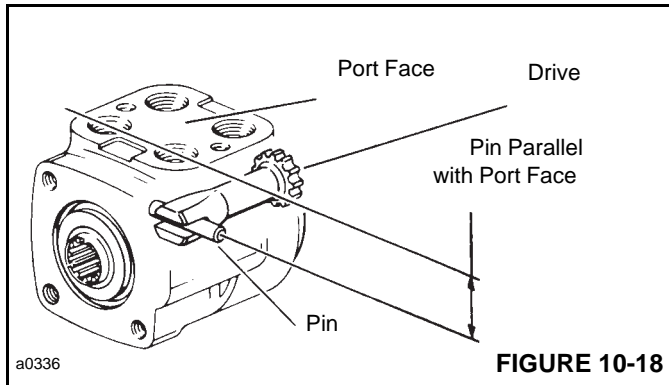
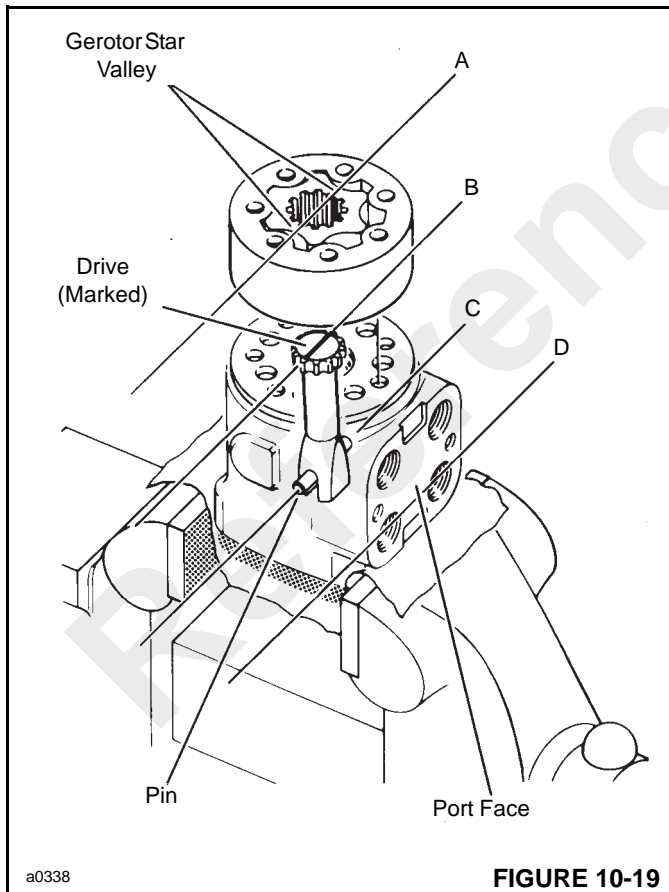

FIGURE 10-18
FIGURE 10-19
19. Install seal (13) into groove in housing (8). Install spacer plate (14). Align bolt holes in spacer plate with tapped holes in the housing.
20. Rotate the spool and sleeve assembly until pin (11) is parallel with the port face (see Figure 10-18). Install drive (15, Figure 10-8), Make sure you engage the drive with pin (11). To ensure proper alignment, mark the drive as shown in Figure 10-19, Ref. B. Note relationship between the slotted end of the drive to the splined end of the drive when marking.
22. With seal side of the gerotor toward spacer plate (14), align star valleys (Figure 10-19, Ref. A) on drive (Ref. B). Note the parallel relationship of reference lines A, B, C and D. Align bolt holes without disengaging the gerotor from the drive.